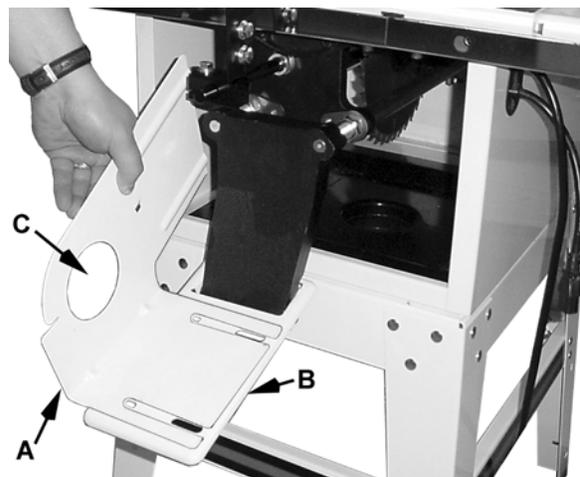

Figure 22
2. Place the belt guard bracket (A, Fig. 22) on top of the motor plate (B, Fig. 22). The hole for the motor pulley (C, Fig. 22) should be on your left as you face the rear of the saw.